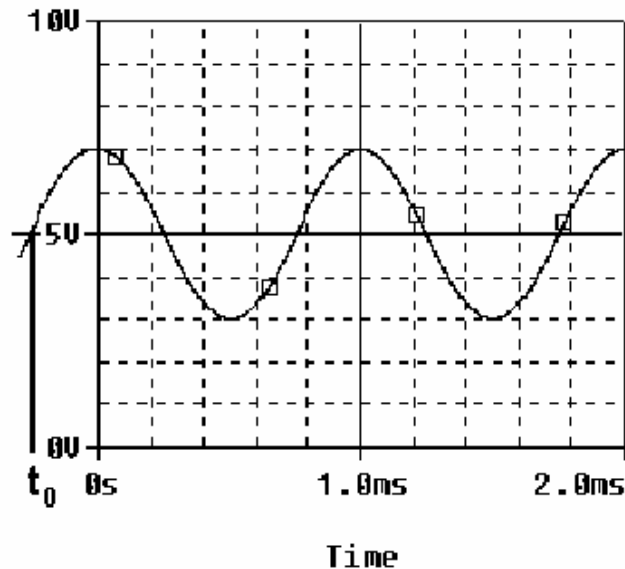

Figure A-2
*Adding a DC offset:* If we add a DC offset voltage to the sine wave signal, as shown in figure A-2, it moves the wave such that the center is around the DC offset. The equation becomes  $v(t) = A \sin(2\pi ft) + V_{DC}$ . In electronics, the AC and DC parts of a signal can be treated as two mutually exclusive entities.